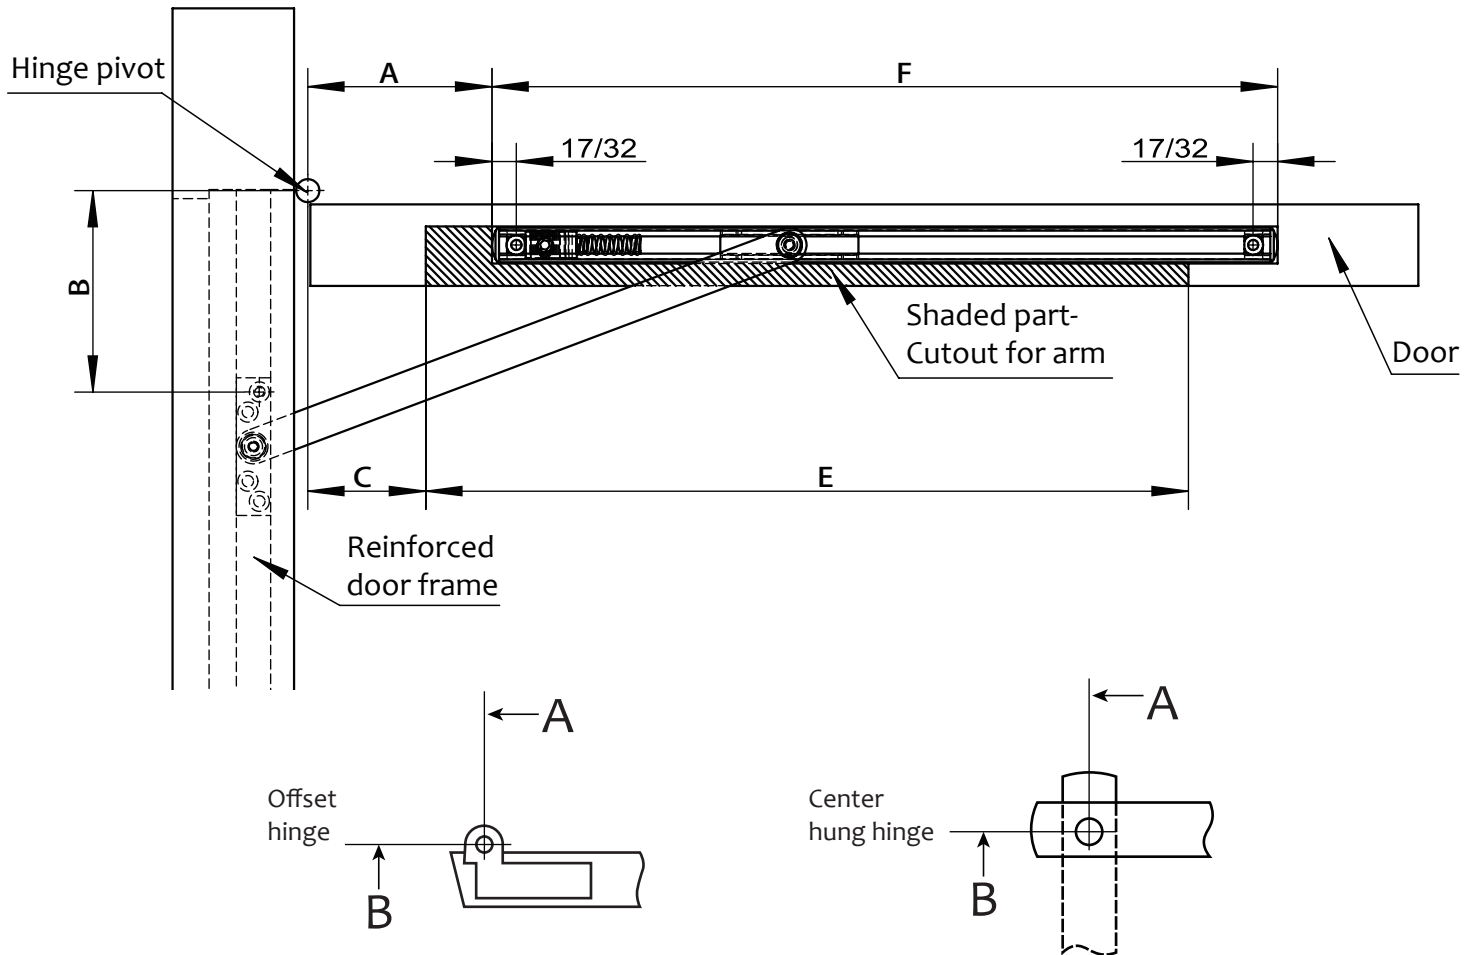

Figure 1 Installation diagram
- Select the correct dimensions from Figure 5 for Figure 1, according to the door opening and opening angle.
- Select and mark dimension B on the door frame for jamb bracket. (Figure 1)
- Chisel a 7/8" deep x 3/16" wide mortise for the channel according to dimension F. (Figure 1, 3)
- Make cutout 1/4" deep for arm, according to dimension E. (Figure 1, 3)